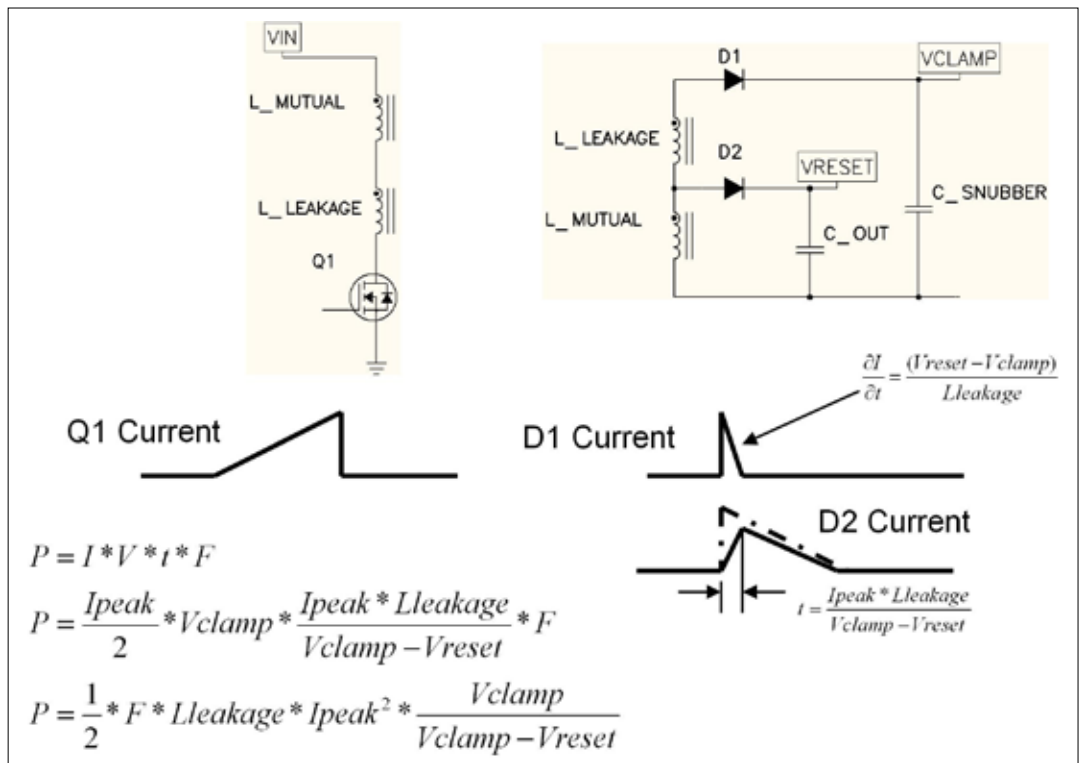

Figure 2: Leakage inductance steals output energy.
**Figure 2** shows the transformer primary and secondary current waveforms.
Interesting, you can calculate the trade-off between clamp voltage and snubber power dissipation. As shown in Figure 2, the power put into the clamp circuit is equal to the average clamp diode current times the clamp voltage (assuming a constant clamp voltage). Rearranging some terms we find the term  $\frac{1}{2} \times F \times L \times I^2$ , which relates to the output power of a discontinuous flyback converter. In this case, the inductance is the leakage inductance.